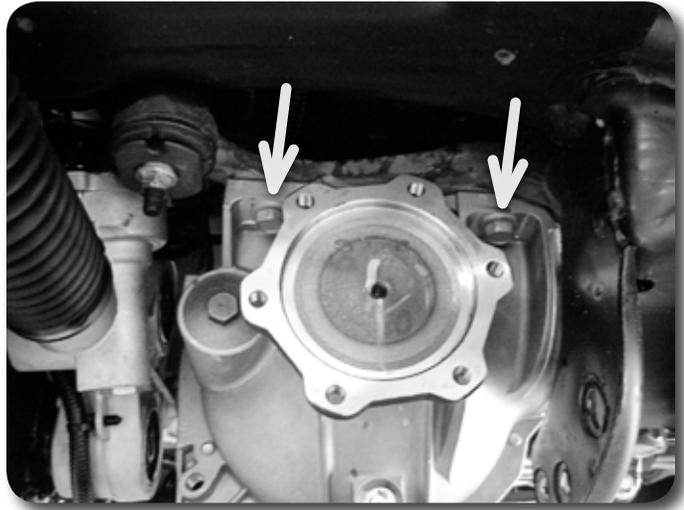

Figure 18
31. Support the front differential with an appropriate jack. Remove the two driver's side differential mounting bolts Figure 18 and the two passenger's side mounting nuts. Carefully lower the differential to the ground. Save mounting hardware.